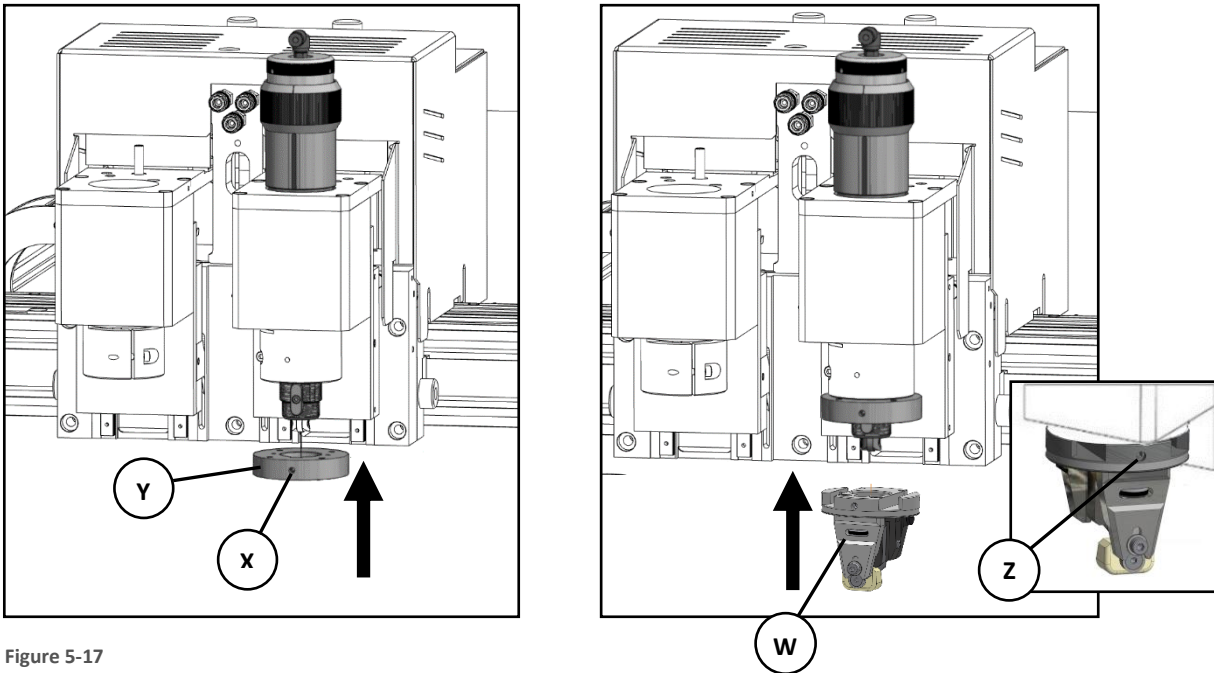

Figure 5-17
To mounting a head (W) on the VersaTool, insert it under magnet holder and when it adhere to the flange, tighten the screw (Z) (Figure 5-17).
- Loosen the screw (Z) (Figure 5-17).
- hold the release tool/fork (1) by its handle and insert it into the slot located in the top part of the head. Holding the tool with one hand support the release fork tool with the other, insert into the head slot (2) and give it a slight knock to free the head.
- This will detach the interchangeable head from the retaining magnets and it will remain attached to the magnets of the release tool (3)